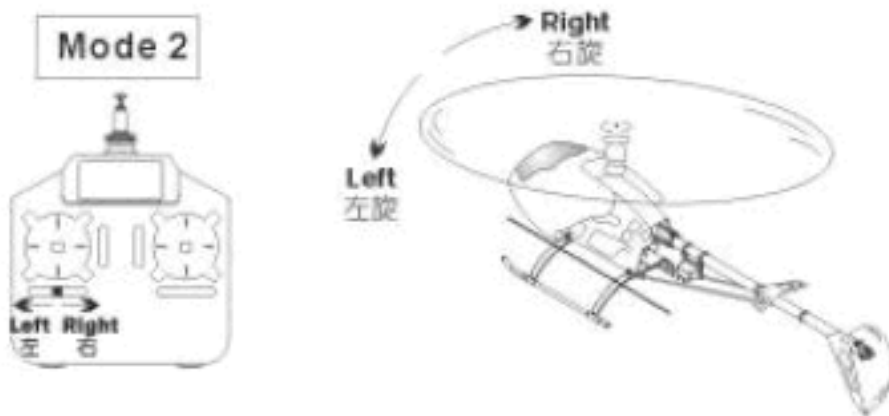

Fig 18b
*Hint – To keep yourself oriented between the radio controls and the helicopter, always fly the Nose of the helicopter. NEVER fly the tail. This is a common problem for new pilots. Using the left stick pushed over to the left should cause the nose to go left CCW. Right stick with the stick leaning towards the left causes the helicopter to slide to the left. When both sticks are going to the left, you get a nice banking left turn with the tail following the nose. When you start flying “Nose In” (flying towards you), the nose orientation will be even more important. So don't pick up a bad habit of concentrating on the tail. Put your mind's eye in the nose of the helicopter (Fig. 18b)